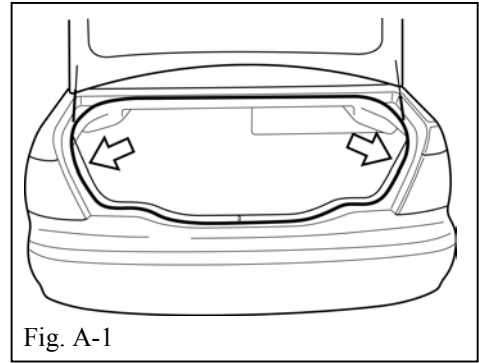

Fig. A-1
1. Open trunk and locate upper anchor points. (Fig. A-1)